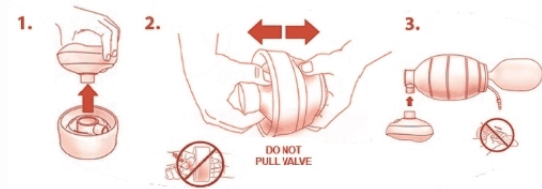

Figure 1 – Unpacking the Pocket BVM
- Unpack and assemble the Pocket BVM from the protective carrying case (as illustrated in Figure 1).